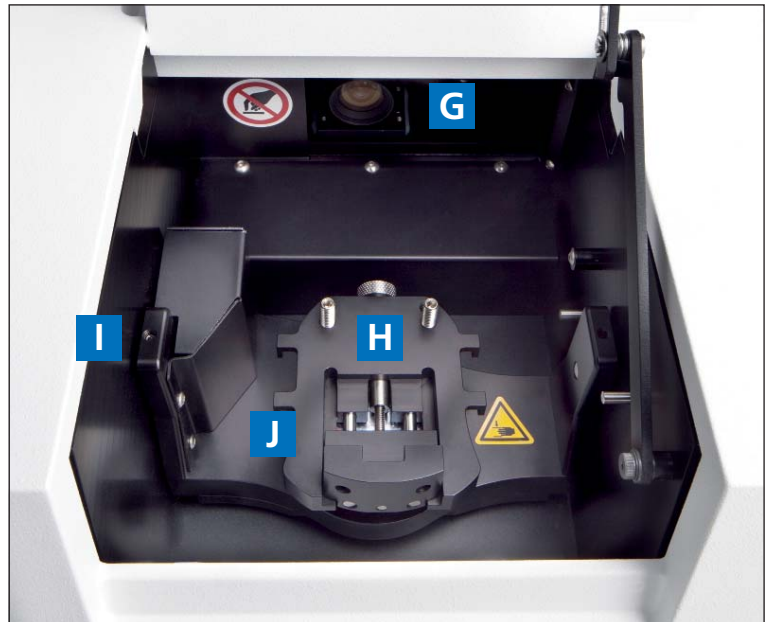

Fig. 3: Interior view
10.  Please do not touch the camera lens **G** inside the device (see Fig. 3).